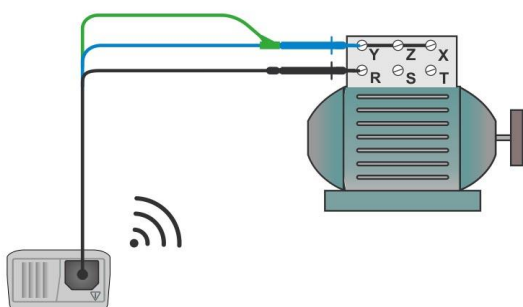

Figure 5.11: 3-wire test lead application
- Connect** test leads to the tested object (see *figure 5.11*).